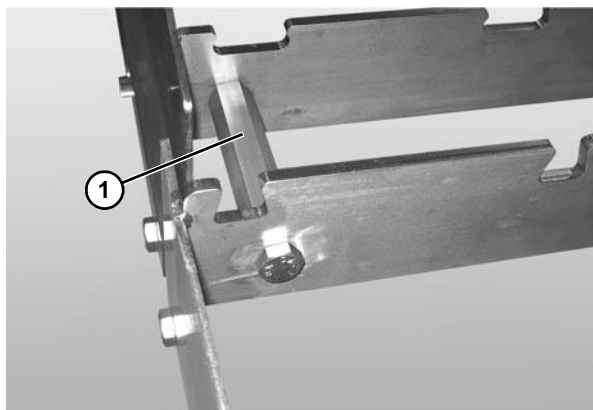

Figure 7
3. Connect the frame sections by bolting the hex post connectors (Figure 7, item 1) between frame sections. Be sure O-rings are seated properly on hex post and hex screws prior to tightening of screws to avoid damage to O-rings.